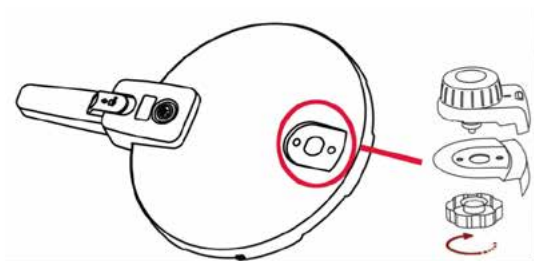

Fig. 15
- **The pressure limiting valve:** take out the pressure limiting by rotating it anticlockwise as Fig. 15 and cleaning as Fig. 16.